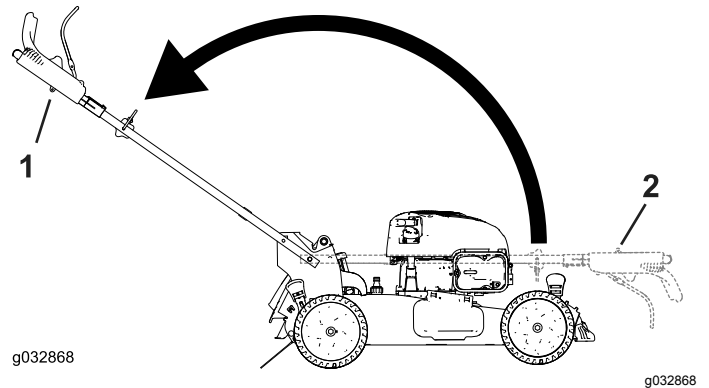

Figure 5
3. Unfold the handle to the operating position by rotating it rearward (Figure 5).